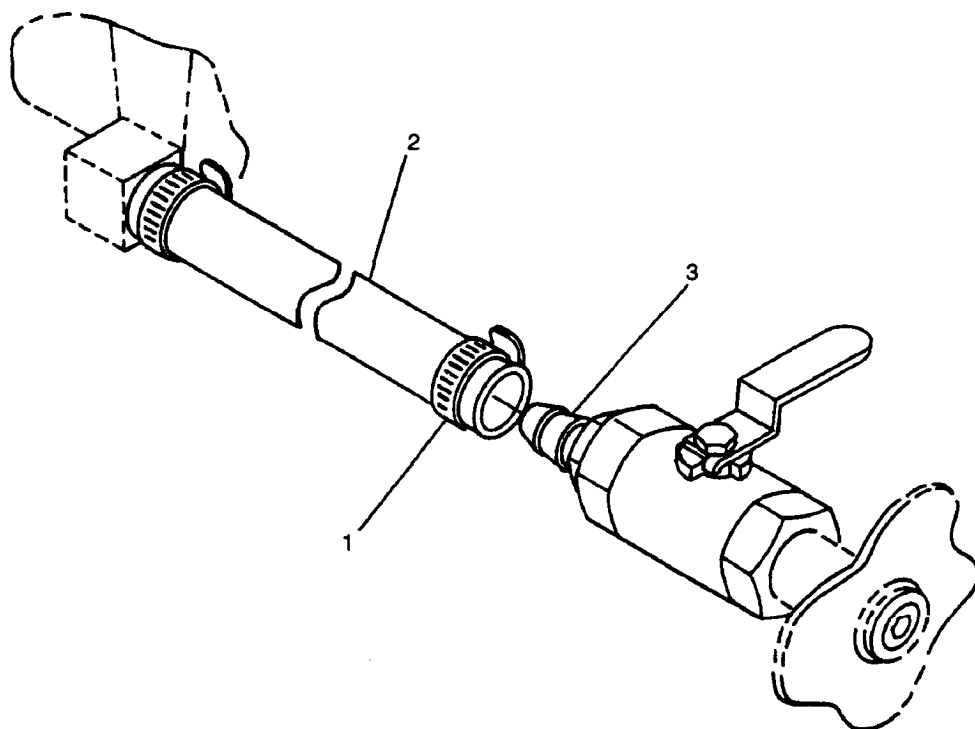
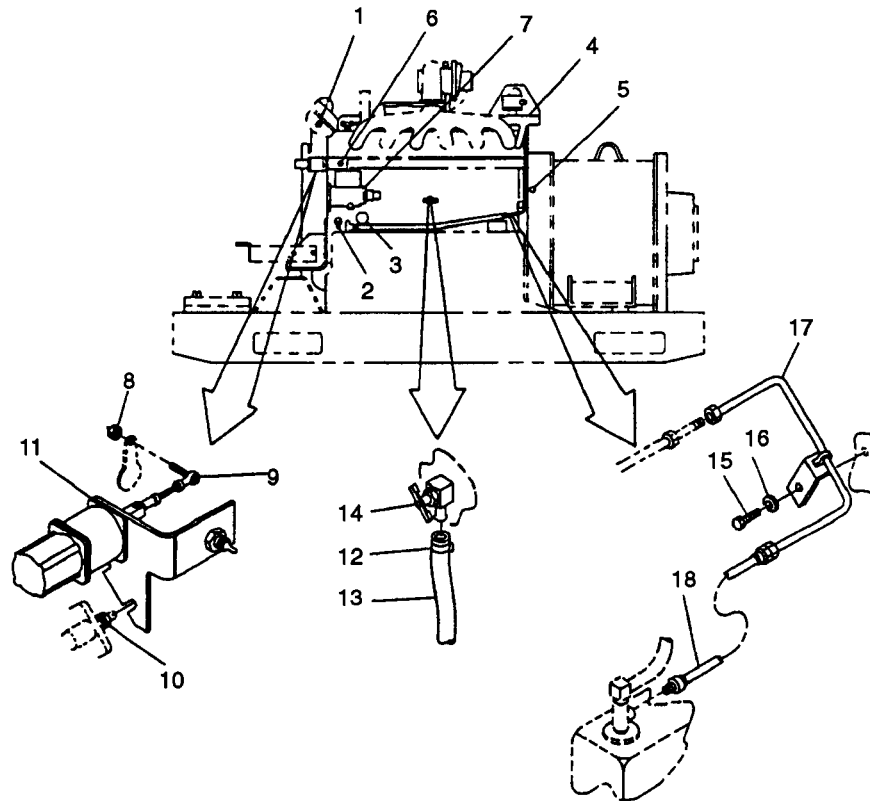
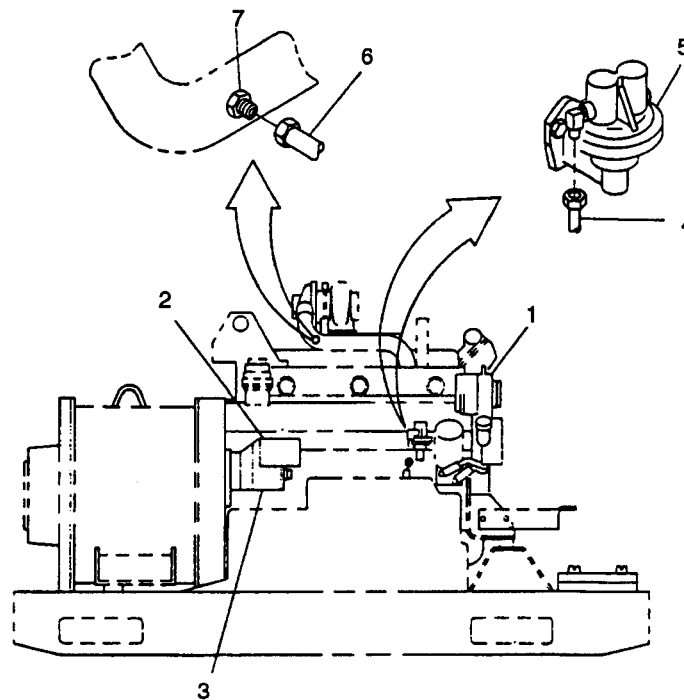
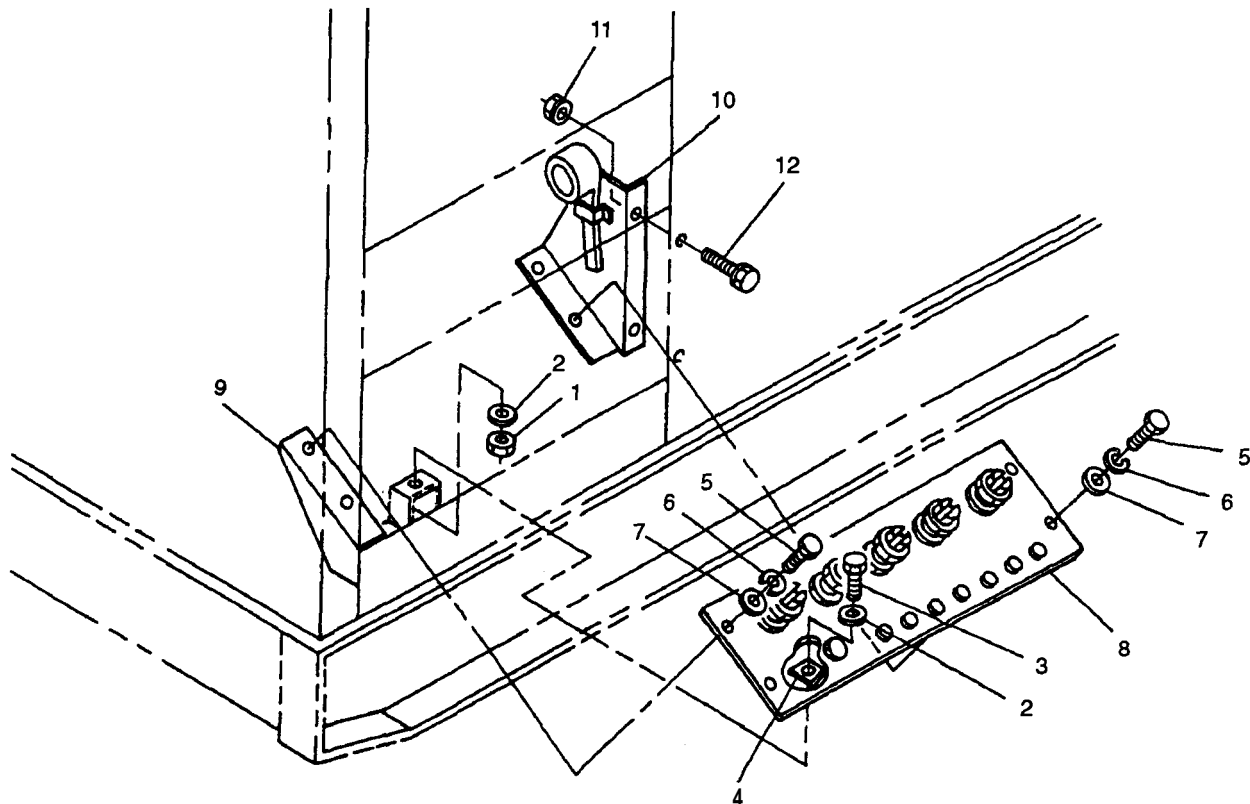

FIGURE 3-10. Oil Drain Hose
FIGURE 3-11. Left Side Engine
FIGURE 3-12. Right Side Engine
FIGURE 3-13. Load Output Terminal Board
- ai. Loosen clamp (1, FIGURE 3-10) and disconnect oil drain hose (2) from adapter (3).
- aj. On left side of engine, tag and disconnect electrical leads from coolant high temperature switch (1, FIGURE 3-11), low oil pressure switch (2), oil pressure sender (3), coolant temperature sender (4), magnetic pickup (5), DEAD CRANK switch (6), and fuel injection pump (7).
- ak. Remove nut (8) from rod end (9). Loosen nuts (10) and remove governor actuator assembly (11) with wiring harness attached. Place out of the way.
- al. Loosen clamp (12) and disconnect coolant drain hose (13) from engine block coolant drain valve (14).
- am. Remove bolt (15) and lockwasher (16) securing fuel return line (17) to engine block.
- an. Disconnect fuel line (17) at injectors excess fuel line, and fuel hose (18) at fuel tank. Remove line (17) and hose (18) as an assembly, Cap openings.
- ao. Open right side engine access doors, tag and disconnect electrical leads from battery charging alternator (1, FIGURE 3-12), starter solenoid (2) and starter motor (3).
- ap. Disconnect fuel line (4) at fuel pump (5). Cap openings.
- aq. Disconnect tube (6) from ether start spray nozzle (7) at intake manifold.
- ar. Remove nut (1, FIGURE 3-13), lockwashers (2), and bolt (3) securing ground strap (4) to skid base.
- as. Remove bolts (5), washers (7), and lockwashers (6) securing load output terminal board assembly (8) to supports (9) and (10). Pull load output terminal board assembly out through access door.
- at. Remove assembled nuts (11), bolts (12), and support (10) from right side panel.
- q. Install support (10, FIGURE 3-13) on right side panel with bolts (12) and assembled nuts (11).
- r. Install load output terminal board assembly (8) on supports (9) and (10) with bolts (5), lockwashers (6), and washers (7).
- s. Secure ground strap (4) to skid base with bolt (3), lockwashers (2), and nut (1).
- t. Connect tube (6, FIGURE 3-12) to ether start spray nozzle (7) at intake manifold.
- u. Connect electrical leads to battery charging alternator (1), starter solenoid (2) and starter motor (3) on right side of engine, and remove tags.
- v. Remove caps and connect fuel line (4) to fuel pump (5).
- w. Remove caps and position fuel line (17, FIGURE 3-11) and hose (18) in generator set. Connect line (17) to injectors excess fuel line, and hose (18) to fuel tank.
- x. Secure fuel line (17) to engine block with bolt (15) and lockwasher (16).
- y. Connect coolant drain hose (13) to engine block coolant drain valve (14) and tighten clamp (12).
- z. Install governor actuator assembly (11) to engine assembly with nuts (10), and connect rod end (9) with nut (8).
- aa. On left side of engine, connect electrical leads to fuel injection pump (7), DEAD CRANK switch (6), magnetic pickup (5), coolant temperature sender (4), oil pressure sender (3), low oil pressure switch (2), and coolant high temperature switch (1). Remove tags.
- ab. Connect oil drain hose (2, FIGURE 3-10) to adapter (3) and tighten clamp (1).